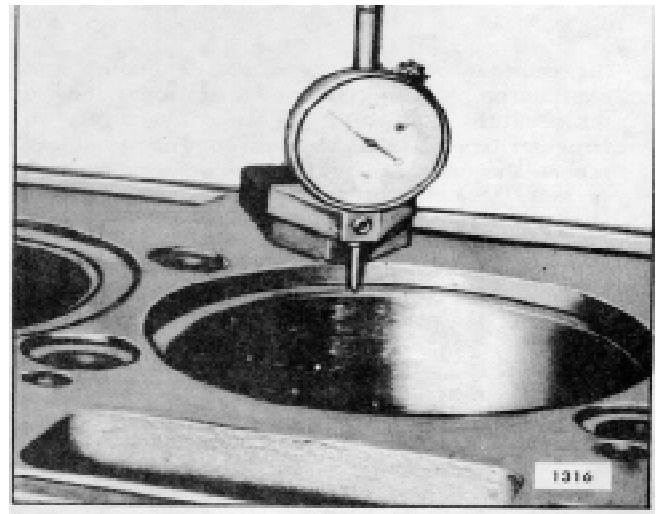

Fig. 17 - Checking Depth of Counterbore for Cylinder Liner with Tool J 22273
6. Make sure the cylinder liner counterbores in the block are clean and free of dirt. Then check the depth (Fig. 17). The cylinder bores have been counterbored to a depth which will accommodate an approximately 3/16" thick replaceable liner insert. The depth must be .4770" to .4795" and must not vary more than